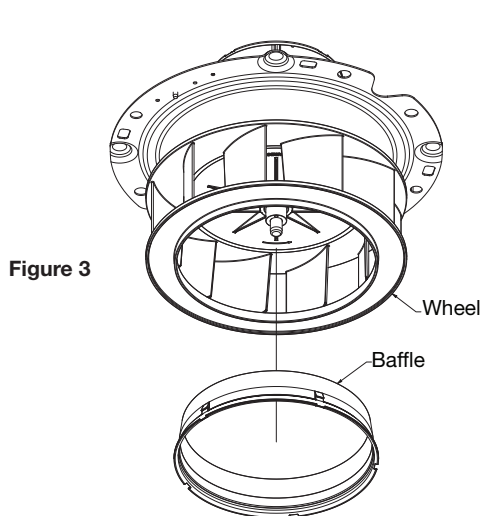

Figure 3
7. On powerpacks with a composite wheel, check if a baffle is installed on the powerpack that was removed. If baffle is present on existing wheel, install the loose snap fit baffle onto new powerpack to match. Figure 3.